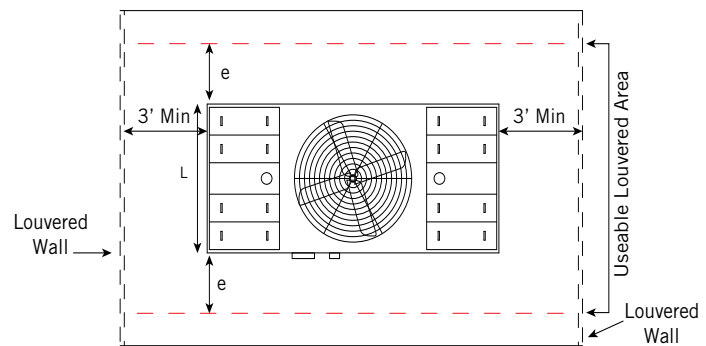

Figure 8. Plan View of Dual Air Intake Unit in Enclosure with Louvered Walls
- a. Units should be arranged within the enclosure such that the air intake directly faces the louver or slot locations as shown in **Figures 8 and 9**, with a minimum distance of three feet.
"e" - Distance usable louvered area may extend beyond unit length (L) as illustrated in **Figures 8 and 9**. The value for "e" is 1/2 the unit length (L), not to exceed 6'.